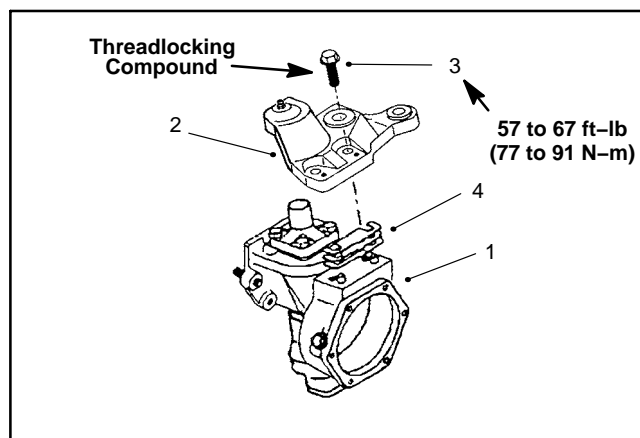

Figure 15
4. Remove the axle case support mounting screws, the axle case support, and the support shims (Fig. 15).